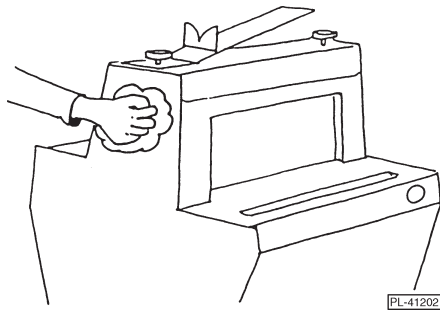

Fig. 2
- The machine cover and front and rear tables can be cleaned with a soft brush or damp cloth (Figs. 2, 3) moistened with soap and water. Rinse. Avoid dripping water in the machine cabinet. Polish with a clean dry cloth.